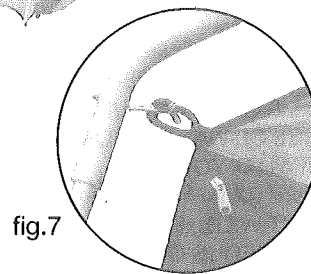

fig.7
8. Attach the bungee cords to the corner hooks. Then attach all remaining clips. See fig.7 & 8.